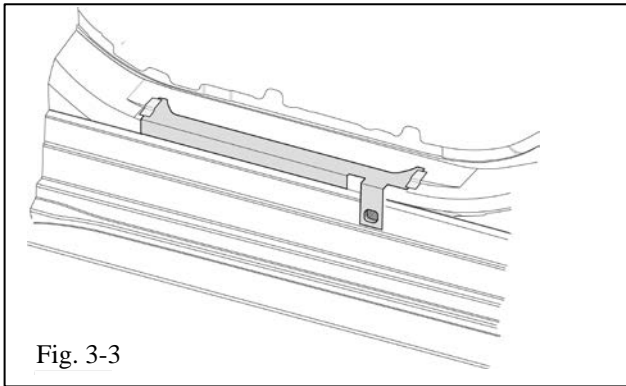

Fig. 3-3
- (d) Place template into position according Tape template in place (Fig. 3-3).